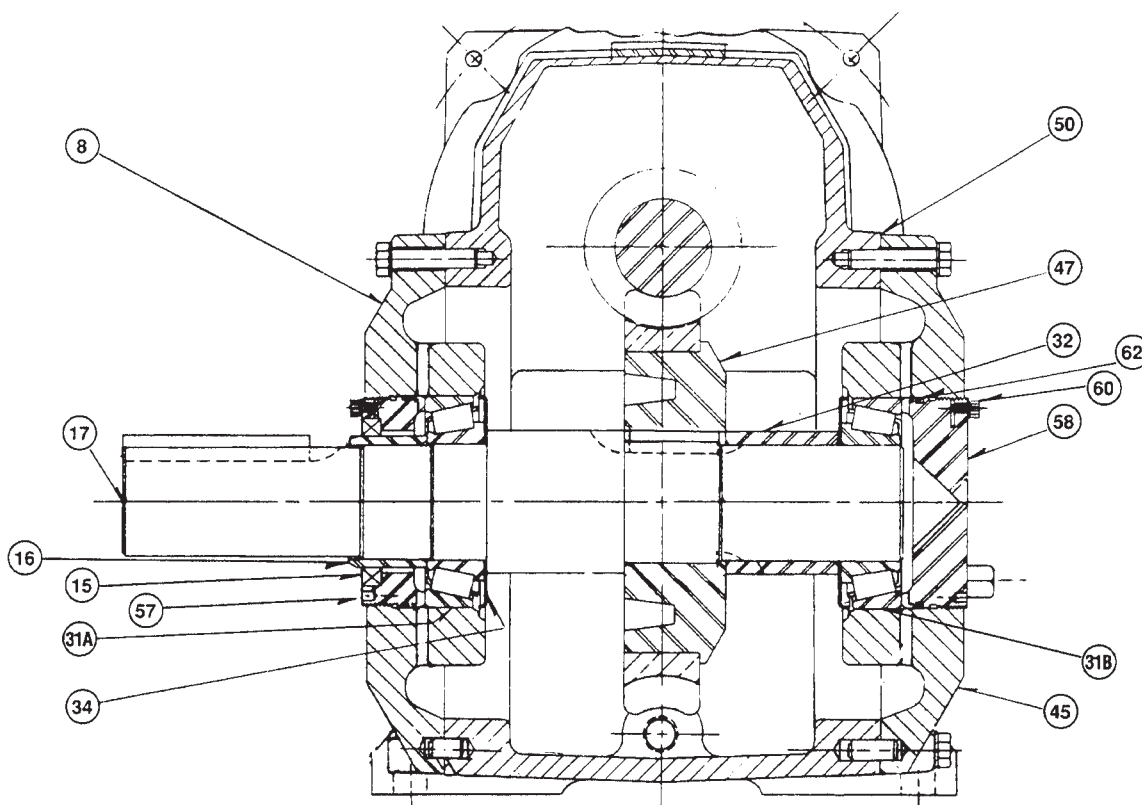

Figure 2
NOTE: To adjust the output shaft bearings turn the bearing caps clockwise to zero clearance and mark the cap and gearcase; then back off one of the caps in a counterclockwise rotation  $\frac{1}{4}$ " (.001" to .003" end play) and retighten the bearing cap lock screw (60) (Fig. 2) to 75 inch lbs.
6. An alternate method to *visually* check gear centering is to "blue" the gear and check tooth contact in both directions. Apply Prussian Blue lightly but evenly to six teeth of the bronze gear (47). Install the output shaft assembly into the gearcase so that the gears do not mesh on the teeth coated with Prussian Blue. Install the bearing housing (45) and gasket and then secure with several screws.